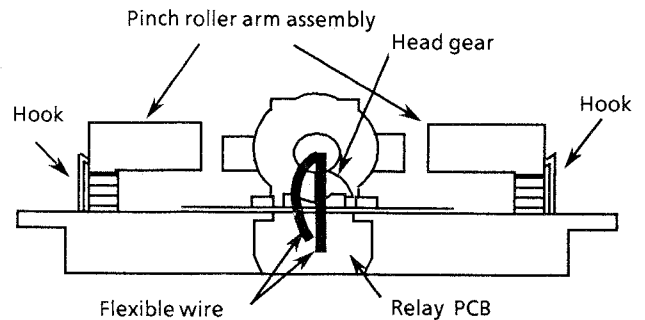

Fig. 13 Bottom view of the cassette mechanism
- (1) Remove the cassette mechanism assembly.
- (2) Unsolder the flexible wire on the relay PC Board and remove the 2 screws  $\textcircled{S}$  fixing the head assembly (Fig. 13,14).
- (2) Remove the hooks fixing the pinch roller arm assembly and remove the pinch roller assembly (Fig. 13).